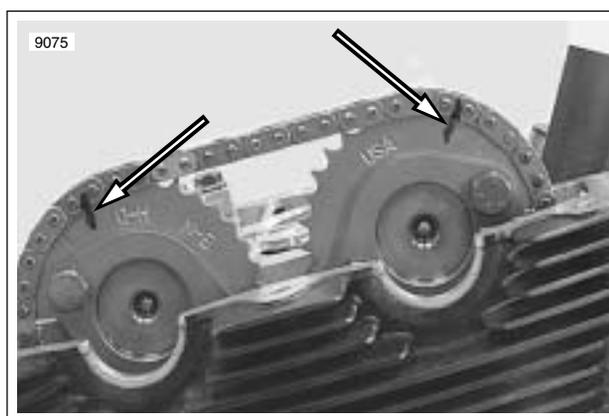

Figure 1-73. Reference Mark Cam Gear and Chain Link
2. See Figure 1-73. Clean oil from cam drive gear and chain link. Make a reference mark on chain and cam drive gear, both intake and exhaust, as shown.
- See Figure 1-73. Install cam in alignment with **new** reference marks on drive chain and cam drive gear. Note **new** reference marks from step 2.